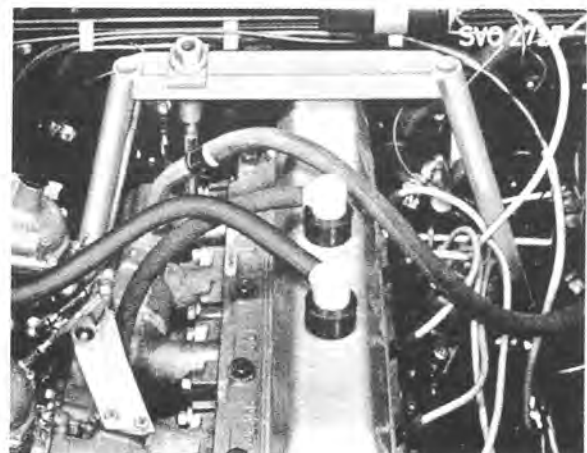

Fig. 4-16. Suspending engine
- SVO 2727 Tool for suspending engine when removing and fitting gearbox, see Fig. 4-16
1. Secure lift tool SVO 2727 to the engine as shown in Fig. 4-16. The lifting hook is secured round the exhaust manifold.